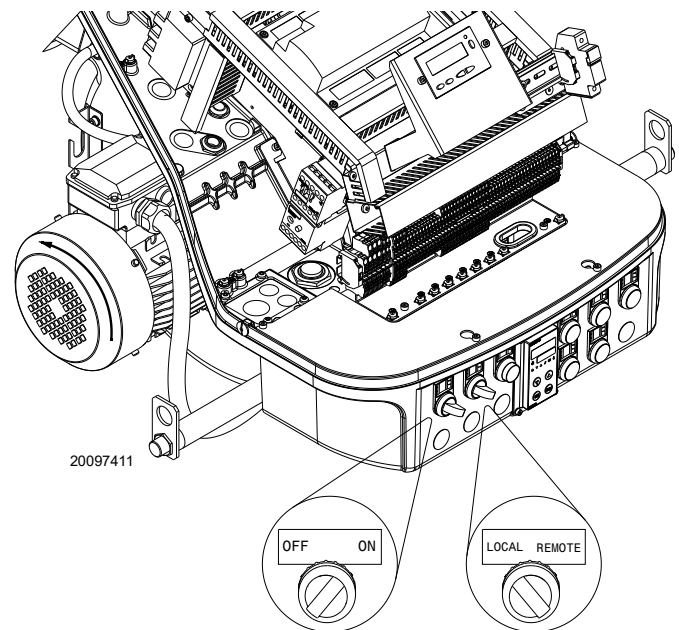

Fig. 36
Close the thermostats/pressure switches, set the parameters on the RWF 55 regulator. Please refer to the specific manual for this operation. Turn the switch of Fig. 36 to position “ON” and turn the switch of Fig. 36, page 28 to position “LOCAL”.
Make sure that the lamps or testers connected to the solenoids, or indicator lights on the solenoids themselves, show that no voltage is present. If voltage is present, stop the burner **immediately** and check the electrical wiring. When the burner starts, check the direction of the motor rotation, as indicated in Fig. 36, page 28.
As the burner is not fitted with a device to check the sequence of the phases, the motor rotation may be incorrect. As soon as the burner starts up, go in front of the cooling fan of the fan motor and check it is rotating anticlockwise. See Fig. 36.
- place the switch of Fig. 36, page 28 in position “0” and wait for the flame control to carry out the switch-off phase;